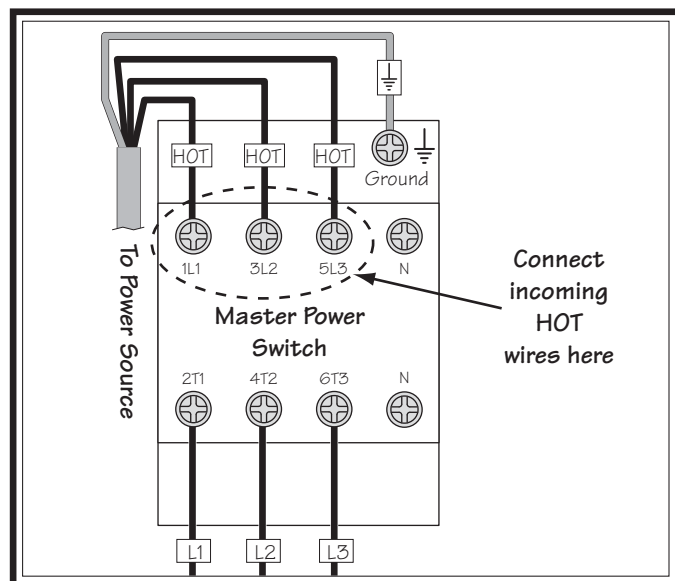

Figure 20. Power connection at master power switch.
4. Connect the incoming ground wire to the ground terminal directly above the master power switch, as illustrated in **Figure 20**.